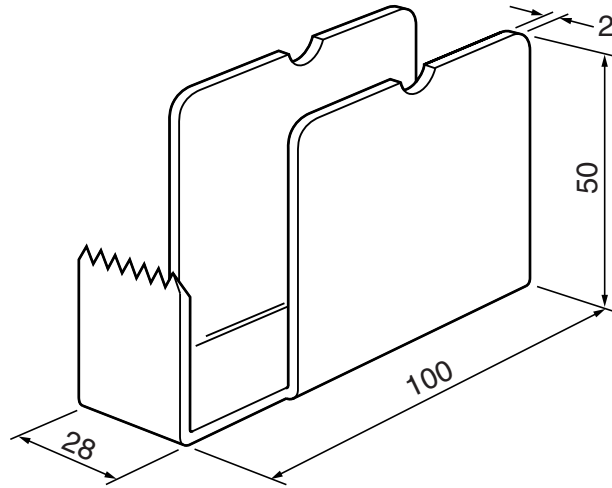

Fig. 1
- 1 Fig. 1 shows part of a tape dispenser.